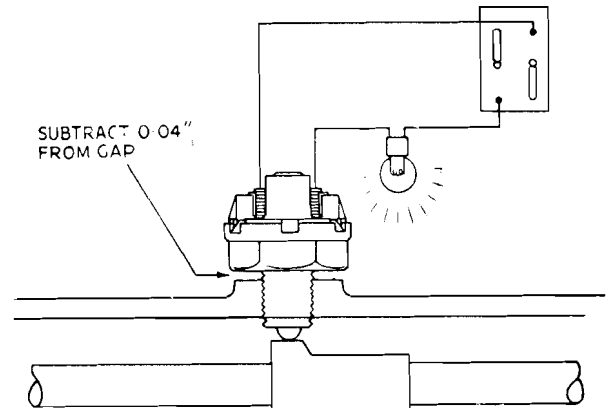

FIG. 3
Switch Adjustment. Fig. 3. It is important when moving the gear lever to an engaged position, that the switch contacts close at a precise point during the lever's movement.
- (b) Wire a bulb in series with the switch contacts and connect to a battery. (Fig. 3).
- (c) Screw the switch into the rear switch boss (Fig. 3), until the contacts close. (Indicated by the bulb lighting.)